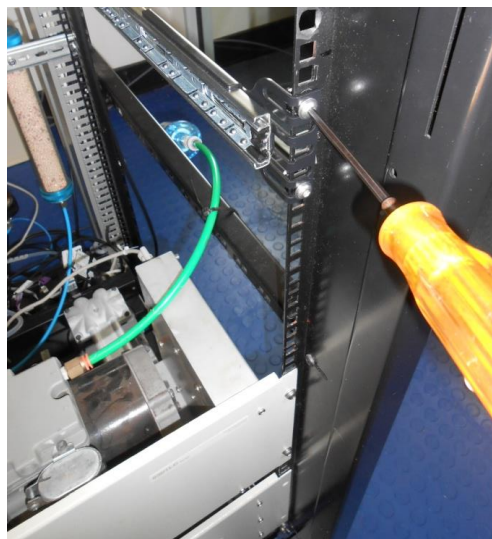

Figure 157 – Attach Slides to Front of Rack
7. Refer to Figure 157. Install the two assembled outer slide rails onto the left and right side of the rack securely with M6 bolts; washer and locknuts/cage nuts.